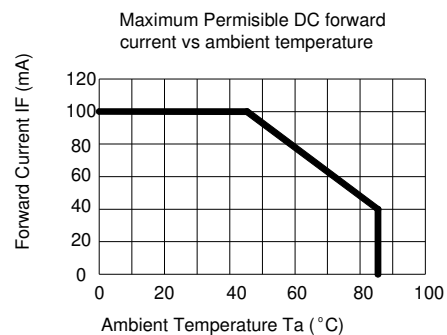

FIG.6 DC FORWARD CURRENT VS. AMBIENT TEMPERATURE DERATED (Based on TJMAX=110°C)
1. Derate as shown in Figure 6.